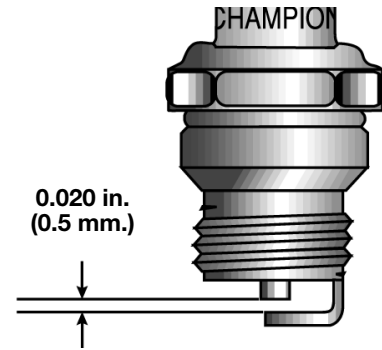

Fig. 37
3. Replace cracked, fouled or dirty spark plug. Set the air gap at **0.020 in. (0.5 mm.)** using a feeler gauge (Fig. 37).